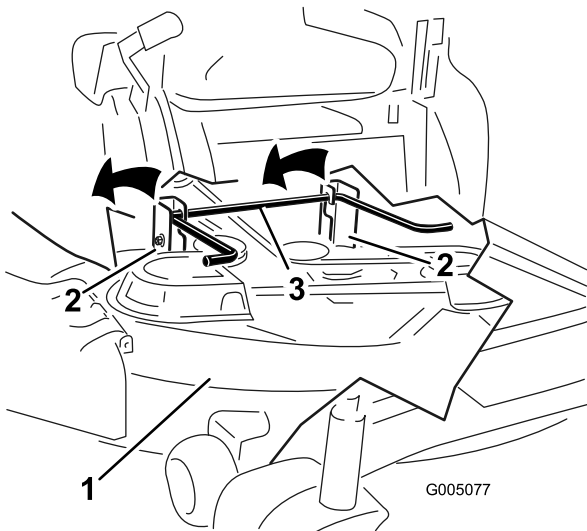

Figure 57
5. Lift the mower deck and hanger brackets clear of the rear lift rod and lower the mower carefully to the ground (Figure 57).
- Lift the rear of the mower deck and guide the hanger brackets over the rear lift rod (Figure 57).